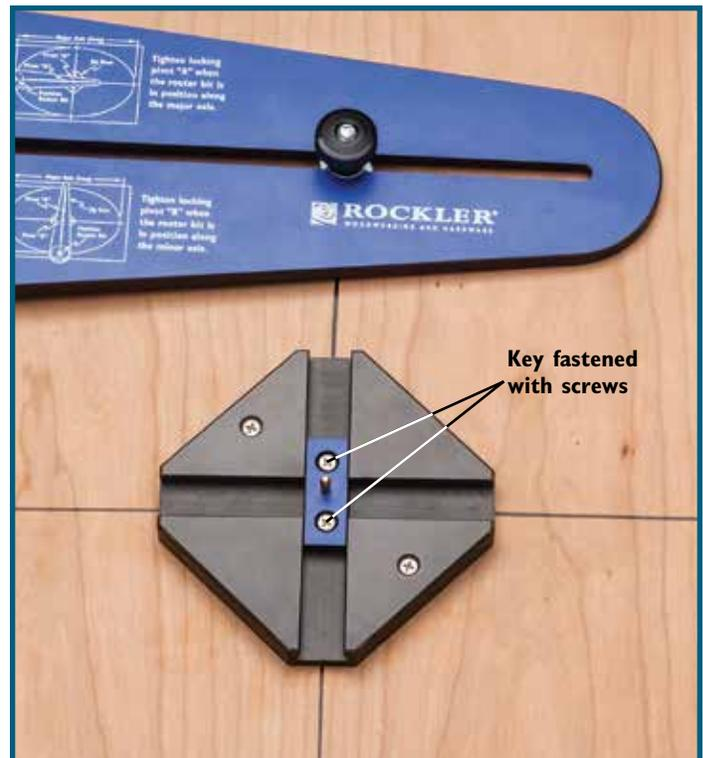

Fig. 6
2. Use the scribe lines machined into the Jig Base (2) to center it on the intersection of the axes. Secure the Jig Base (2) to the workpiece with the included #6 Wood Screws (7).
3. Remove one of the Locking Pivots from the Jig Arm (1) and one of the dovetail keys (3) from the Jig Base (2).
4. Make sure the remaining Dovetail Key (3) is in the channel that has the two holes near the center. Align the holes in the Dovetail Key (3) with the holes in the Jig Base (2) and secure with two of the included #6 Wood Screws (7). **Fig. 6.**
5. Loosen the Locking Pivot on the Jig Arm (1) and position it so it mounts on the pin in the Dovetailed Key (3).
6. Adjust the Jig Arm (1) in or out until the bit is positioned as desired to make the cut. Tighten the Locking Pivot.
7. With the router off, rotate the Jig Arm (1) through the full range of cut. You want to ensure that the Jig Arm will move smoothly, as well as verify the circle pattern and proper placement of any spacers/supports. Then make the cut.